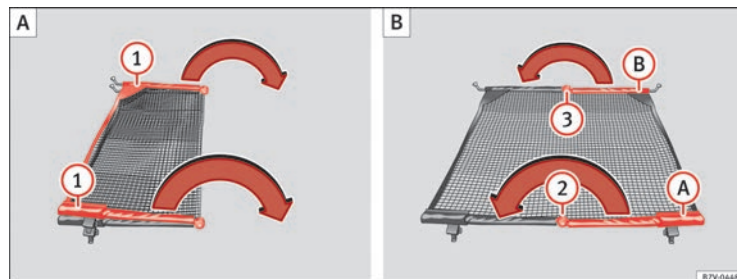

Fig. 93 Unfold the net partition ① then fold it again ② and ③.
Fold out the support transversal rods ⇒ fig. 93 ① for the net partition fully in the direction of the arrow until you hear a “click”.
- Press on the release button ⇒ fig. 93 (2) and bend the rod (A) in the direction of the arrow with the release button pressed.
- Press on the release button (3) and bend the rod (B) in the direction of the arrow with the release button pressed.